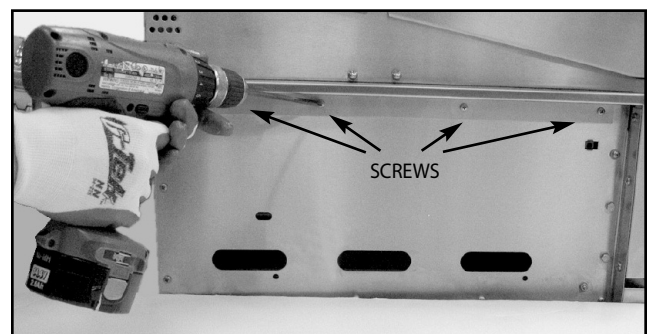

Fig. 38
- A. First you will need to remove the angle brackets from the side of the unit and replace them with cart mount brackets (Fig. 38). Unit is shipped prepared for island installation.